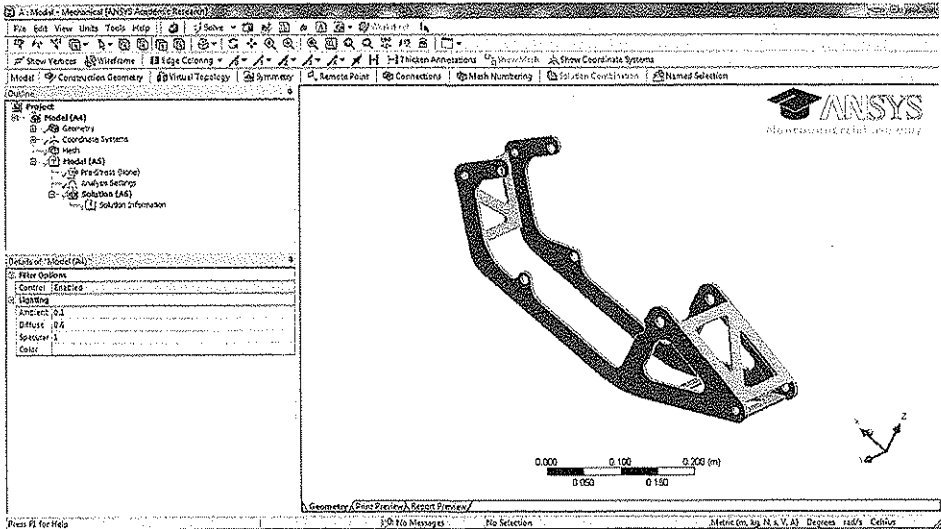

Figure 8-2 The Mechanical window with the engine mount model displayed in it
- In the **Project Schematic** window, double-click on the **Model** cell; the **Mechanical** window along with the model is displayed, refer to Figure 8-2.
The orientation of the model in Figure 8-2 has been changed for better visibility of the model.